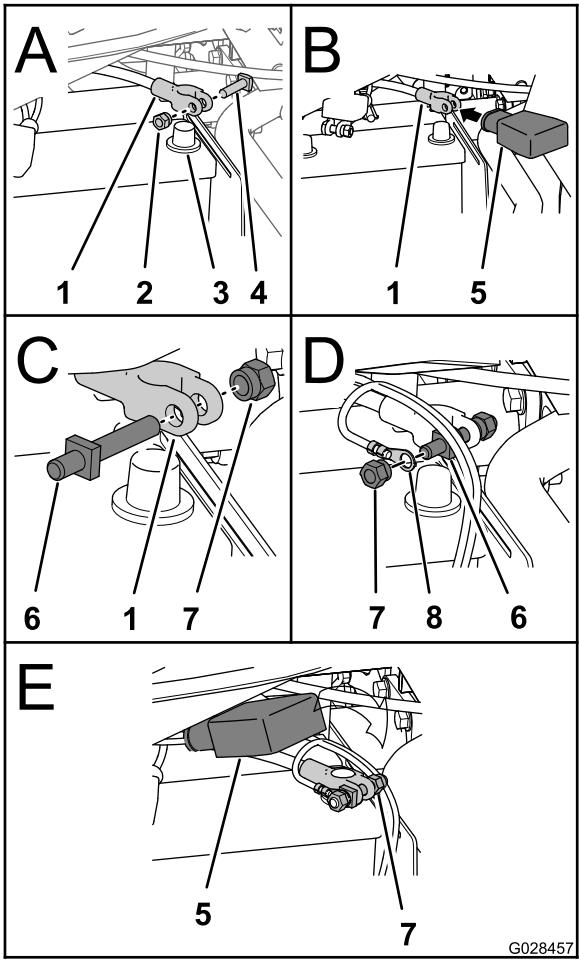

Figure 25
1. Remove the existing nut and T-bolt and from the positive battery terminal (A of Figure 25).
- Slip the red battery terminal cover over the positive battery cable (B of Figure 25).
- Assemble the new battery terminal bolt and 1 clamp nut onto the terminal of the positive battery cable (C of Figure 25).
- Install the terminal of the battery lead from the sprayer wiring harness onto the battery terminal bolt and secure the terminal with 1 clamp nut (D of Figure 25).
- Connect the negative battery terminal to the negative battery post (E of Figure 25) and